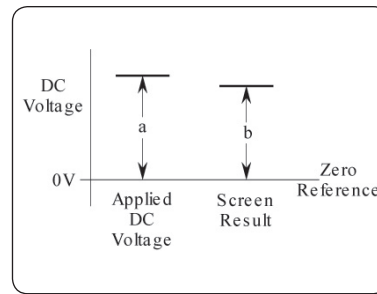
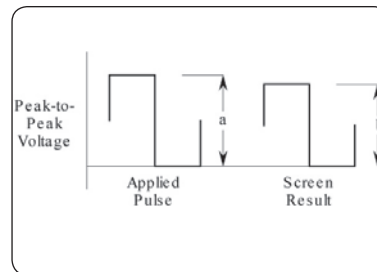

Fig. 1.2 DC voltage – gain.
Fig. 1.3 LF square wave – gain. The peak-to-peak value shown on the screen (b) is compared with the known value (a): $b \div a = \text{Gain at 1 KHz}$.
- i. With dc coupling, either a dc signal (Fig. 1.2 – includes offset) or a square wave (Fig. 1.3 – can be manipulated to remove the offset) is injected, and the channel's response is measured against graticule divisions or cursor readings.